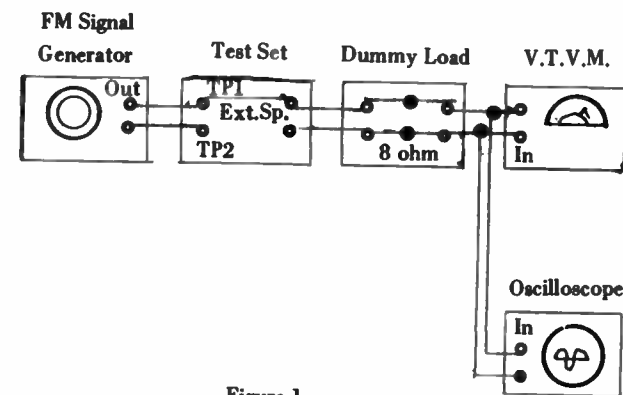

Figure 1
5. Connect the Sweep Generator to TP 1 and TP 2 of the Test Set as shown in Figure 1.
6. Connect the Sweep Oscilloscope to R103 and the wire between L108 and HF301 (ground) as shown in Figure 1 & 4.
11. Connect the Sweep Oscilloscope to R110 and the wire between L108 and HF301 (ground) as shown in Figure 1 and 4.
4. Connect the FM Signal Generator to TP 1 and TP 2 as shown in Figure 1.